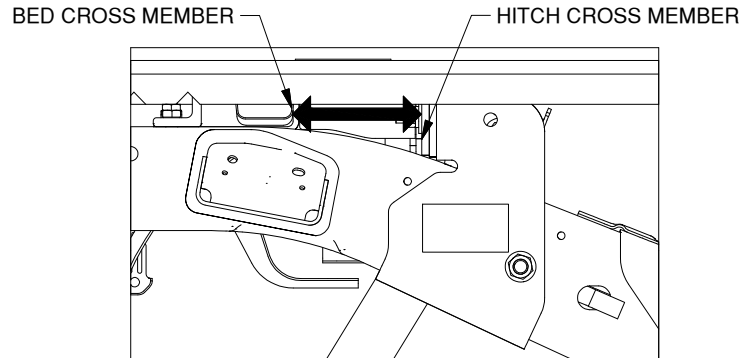

Figure G1: Looking at passenger side frame.
1. **Square the hitch.** With a tape measure, check the distance between the Turnoverball hitch and the nearest bed cross member. The distance between the hitch and the cross member should be consistent on the driver side and the passenger side of the hitch, see Figure G1.